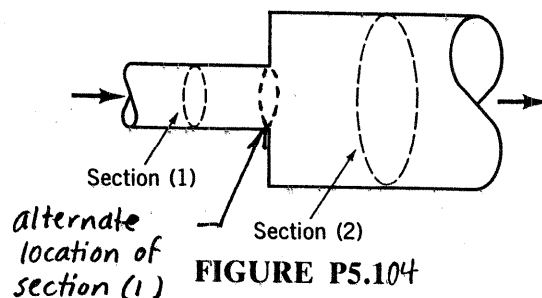

FIGURE P5.104
5.104 When fluid flows through an abrupt expansion as indicated in Fig. P5.104, the loss in available energy across the expansion, loss_{ex} , is often expressed as